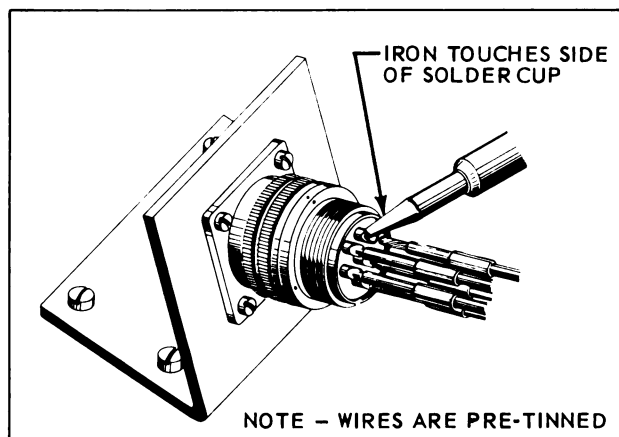
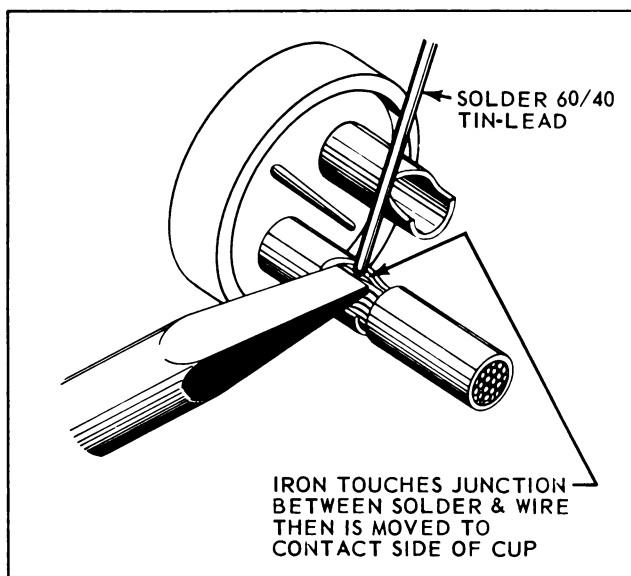

Figure 3-29. Soldering Small Size Contacts
Figure 3-30. Soldering Medium Size Contacts
b. Contacts which have not been removed from inserts are soldered as shown in Figures 3-29 and 3-30. The solder is flowed by placing the iron alongside the solder cup as the wire is being inserted into it. Medium size contacts such as #8 and #12 will solder easier if the iron is held at the point where the wire touches the cutaway of the solder cup as shown in Figure 3-30. Adding a small quantity of 60/40 rosin-core solder at this point will aid in carrying the heat into the joint.